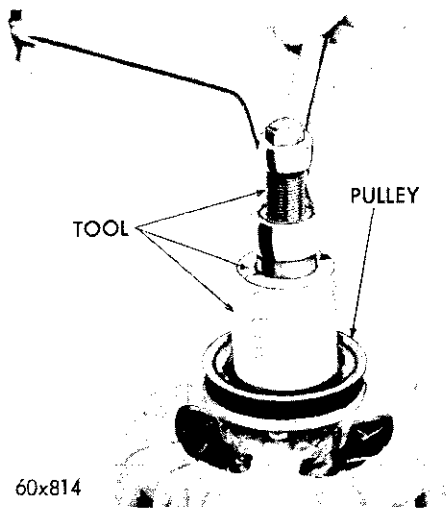

Fig. 33—Alternator Pulley
(3) Remove the through bolts and pry between the stator and drive end shield with a thin blade screwdriver. Carefully separate the drive end shield, pulley and rotor assembly away from the stator and rectifier shield assembly.
(4) The pulley is an interference fit on the rotor shaft. Remove the pulley with puller Tool C-3615 and special adaptors SP-3002 (Fig. 33).
(5) Remove the three nuts and washers and while supporting the end shield, tap the rotor shaft with a plastic hammer and separate the rotor and end shield.
(6) The drive end ball bearing is an interference fit with the rotor shaft. Remove the bearing with puller Tool C-3615 and adaptors as follows: